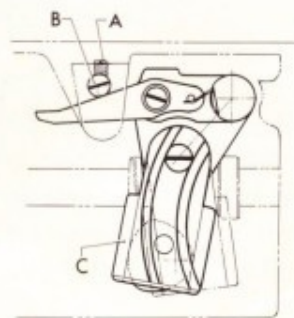

Fig. 16
Set the needle position to "LEFT" (with buttonhole control lever at M position). Turn hand wheel to bring stitch regulator body to the extreme left position of its swing motion (see Fig. 16). Check that needle makes no sidewise movement or only makes slight movement when you move zigzag width lever from 0 to maximum.
3. Loosen screw (A) Fig. 16. Turn stop pin (B) Fig. 16 to right or left until needle stops swinging when you move zigzag width lever from 0 to maximum, and back to 0.
4. Tighten screw (A) securely.